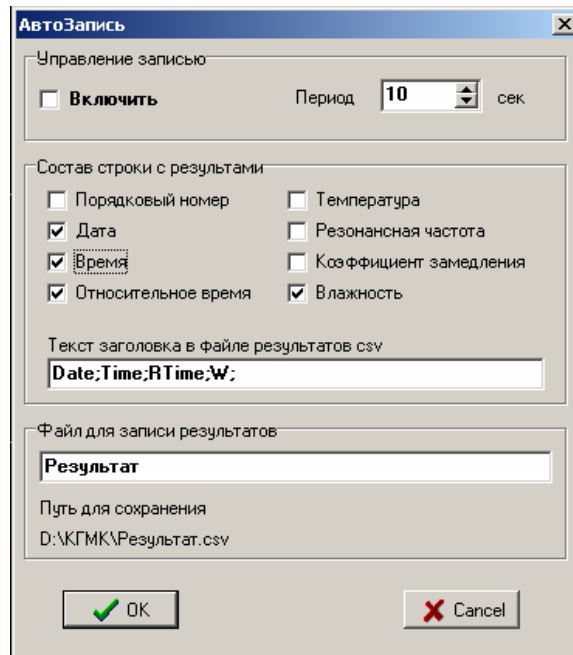

Fig. 12
Auto recording mode management using dialog box (Fig. 12), available from “Tools|Auto recording...” menu.
*Note 3.* Setting “Enable” flag in the management window (Fig. 12) and pressing “Ok” button creates a new file with a file name specified in the management dialog box that may lead to the loss of previously saved data. Therefore, to continue recording specify a new file name for newly recorded data.